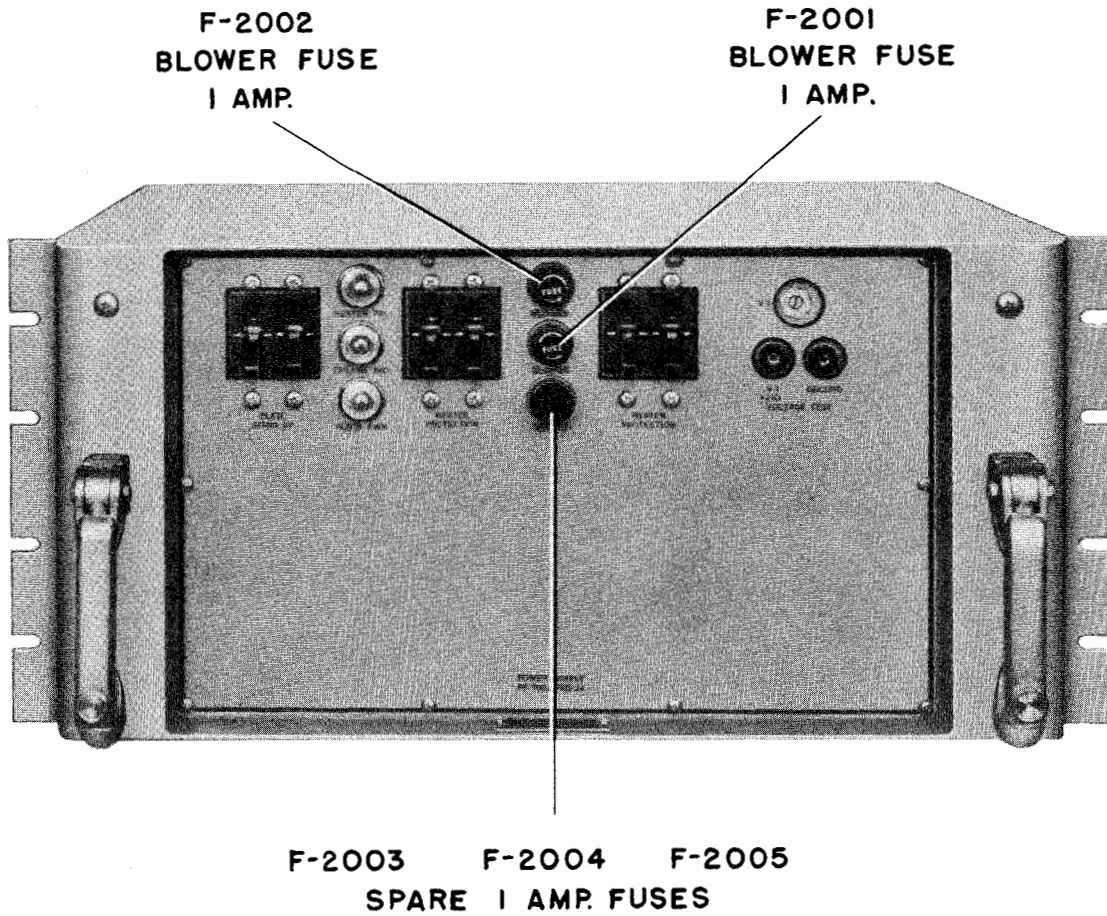

Figure 5-2. Fuse Locations, Power Supply PP-590/FRR-24
(1) FUSES. (See Figures 5-2, 5-3, 5-4, 5-5).—If a blower unit in a particular bay is inoperative check the blower fuses which are accessible at the front of the power supply associated with the defective blower. Two blower units are employed in bay 4, one is operated from the PP-648/FRR-24 and the other from the PP-649/FRR-24. Probable cause of fuse failure is a short-circuit in the blower motor or the A.C. line to the blower. A.C. is connected to the two A.C. output receptacles on the SB-141/FRR-24 through two five-ampere fuses. Probable cause of fuse failure in this circuit is a short circuit in the external equipment connected to the SB-141/FRR-24.